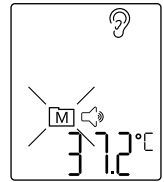

Figure 10
- You can now compare the current measured temperature value with the previous measured value by pressing the MEMO button. The most recently measured temperature value is now shown in the lower area of the display along with the flashing [M] symbol (Figure 10). The thermometer then switches back to measuring mode and again shows the current temperature value.